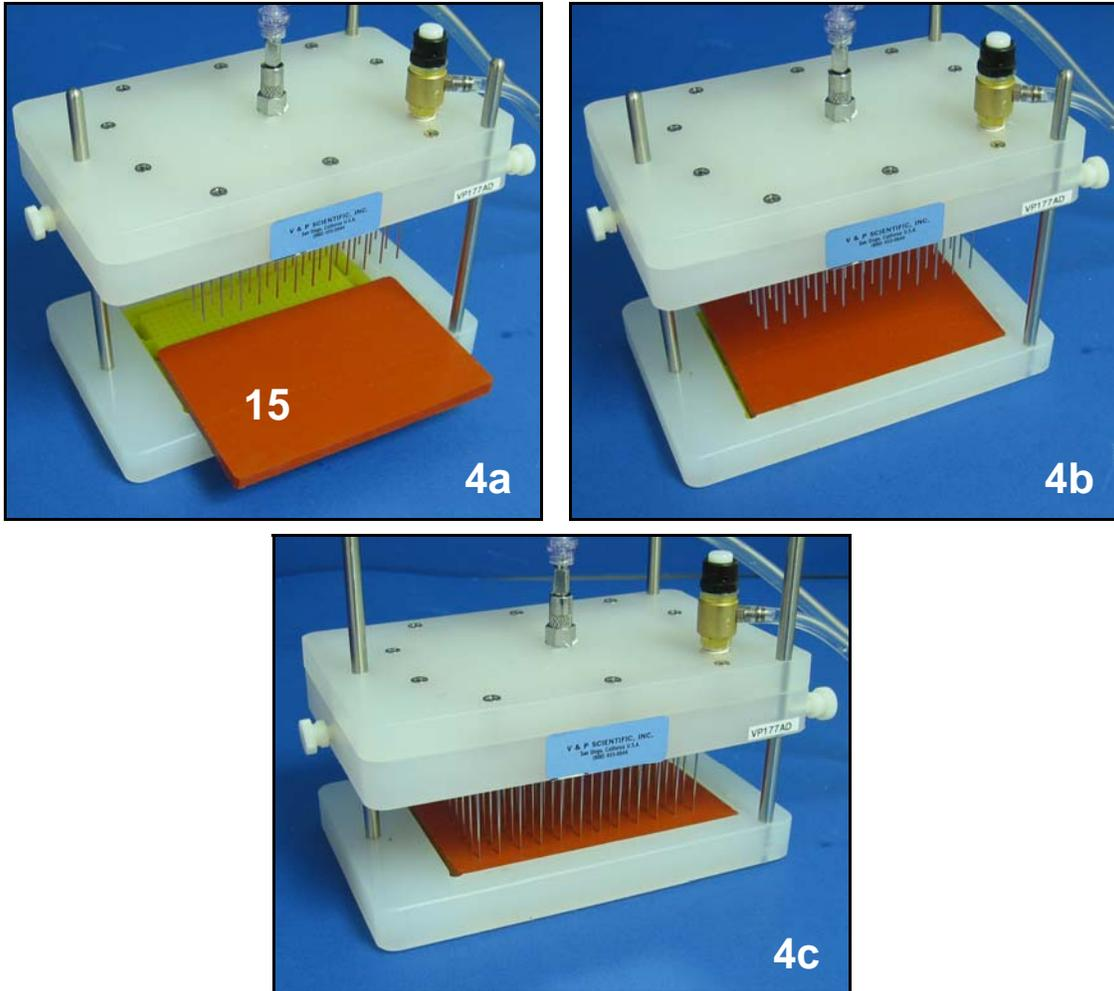

Figure 4. Use of Rubber Pad in Manifold Setup Part 2.
SETUP PART 2: Bleeding Air from Manifold (Figure 4)
- a. Syringe method: Attach the Two-Way Valve (4) to the Luer-Lock Fitting (5) on the top of the unit using the female adapter. Next, attach a Luer-lock syringe and the Manifold Feed Tube (3) to the Two Way Valve. If you are unable to read the volume markings on the syringe unscrew the syringe, rotate it 180°, then screw the syringe back into position. Insert the Manifold Feed Tube (3) into the hole in the Source Bottle Cap (2). Screw cap onto the Source Bottle (1). If the Feed Tube does not fit loosely in the hole of the lid, the cap will need to be unscrewed slightly so a vacuum does not form in the Source Bottle. (Note: ensure the level of liquid does not fall below the tube depth or air will enter into the system)
5. Place the Collection Bottle (8) beside the manifold. Place the Bleed Tube (7) in the cap hole of the bottle (9).
6. Place red Rubber Pad (15) on top of a microplate covered with a lid and lower the Manifold until the Dispense Tubes are pressed slightly into the pad (see Figure 4). To hold Manifold into position, tighten the Thumb Screws or press down with moderate force.